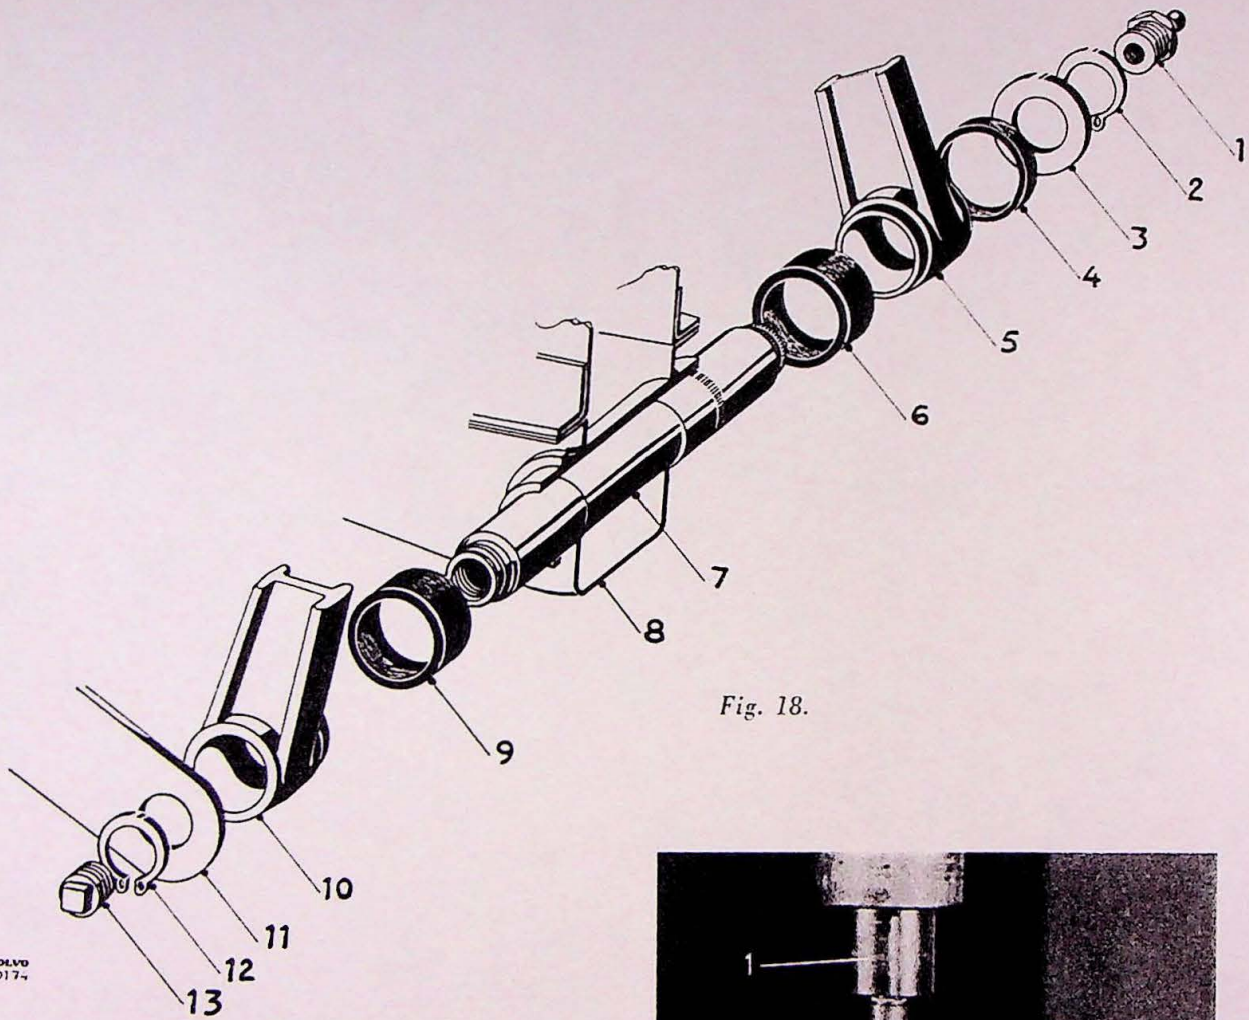

Fig. 18.
2. Remove lock spring (12), fig. 18, at the pedal shaft inside end. Drive out pedal shaft and remove pedals.